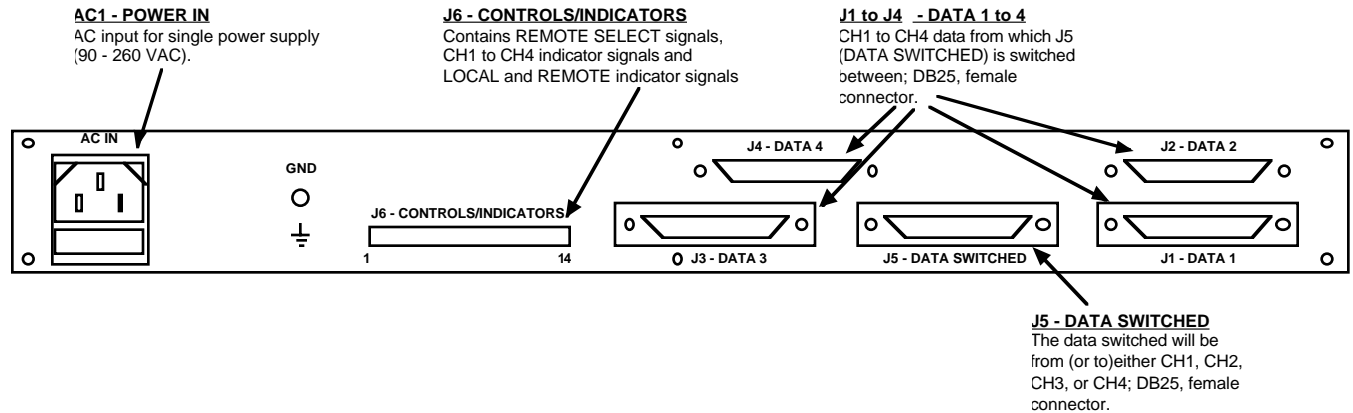
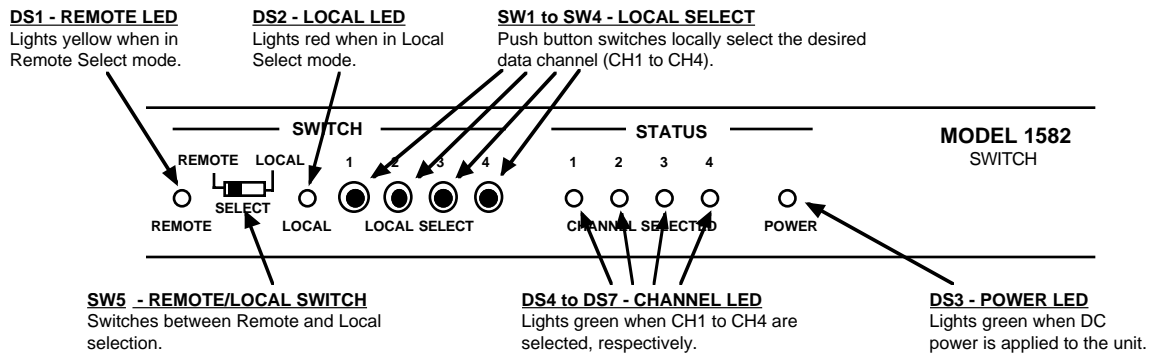

FIGURE 2.2 1582-45L Rear Panel Signals
FIGURE 2.4 1582-45L Front Panel Controls and Indicators
2.2 Rear Panel Signals - The input/output and control/indicator connectors located on the rear panel are shown in Figure 2.2. In order to select CH1 to CH4 remotely, switch SW5 on the front panel must be set to REMOTE operation. With SW5 set to REMOTE operation, the local push button switches on the front panel will be disabled.
2.3 Front Panel Controls and Indicators - Figure 2.4 shows the controls and indicators located on the front panel. When switch SW5 is set to REMOTE operation, the push button selection switches, SW1-SW4, on the front panel are disabled. When switch SW5 is set to LOCAL operation the push button switches, SW1-SW4, will be enabled and all remote control will be disabled.
- 2.) Connect data to the DB25 DATA connectors, J1 - J5 (Figure 2.2).
- 3.) Connect to signals on the CONTROLS/INDICATORS connector, J6, as desired (Figure 2.2).
- 4.) Connect 90 - 260 VAC, 47 - 63 Hz to AC IN on the back panel (Figure 2.2).
- 5.) Be sure the POWER LED, DS3, is on (Figure 2.4).
- 6.) Set SW5 for REMOTE or LOCAL operation (Figure 2.4).
- 7.) Choose the desired data path either remotely (J6, Figure 2.2) or locally using the push buttons (SW1 - SW4, Figure 2.4) and check for proper data flow and that the appropriate CHANNEL LED (DS4 - DS7, Figure 2.4) is lit.